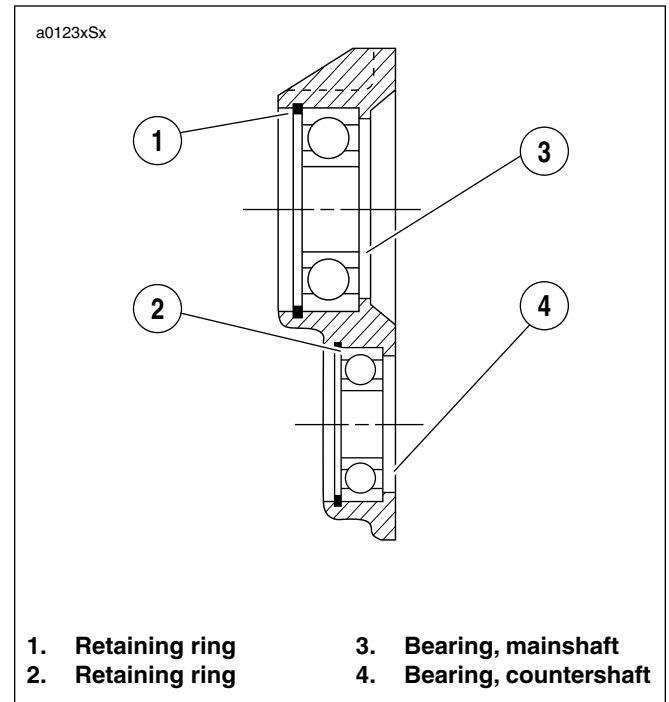

Figure 6-84. Ball Bearing Assembly
5. See Figure 6-84. If bearing replacement is required, remove retaining rings (1, 2) using snap ring pliers (Snap-On Part No. PR-36). Press out bearings (3, 4) from the inside of the crankcase.